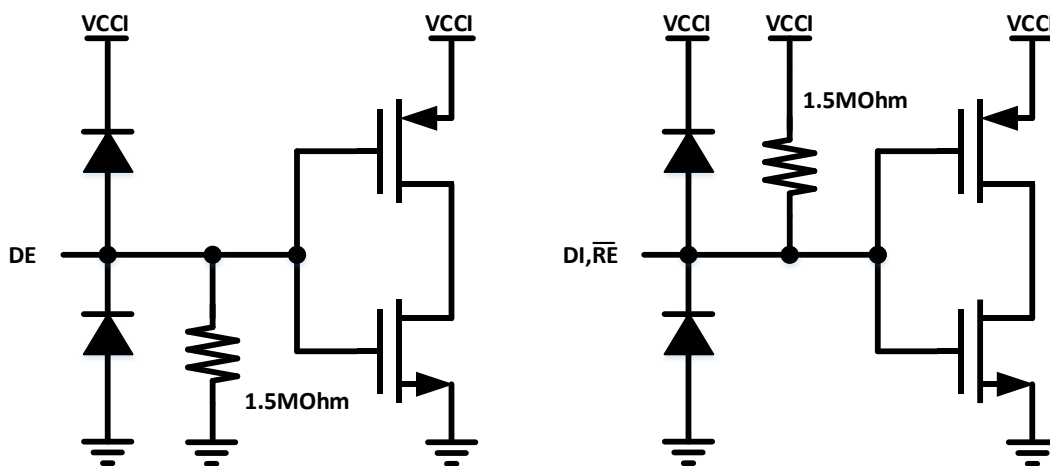

Figure 8-1. Input equivalent circuit
The CA-IS309x devices include three logic inputs on the logic side: receiver enable, driver enable and driver digital input. The driver enable control DE pin has an internal weak pull-down to GNDA, while the digital input DI and receiver enable pins have an internal pull-up to V_{CC}/V_{CCL} , see Figure 8-1 the input equivalent circuit.
The transmitter converts a single-ended input signal (DI) from the local controller to differential outputs on the bus lines A and B. The truth table for the transmitter is provided in Table 8-2, the driver enable control DE pin has an internal weak pull-down to GNDA, see Figure 8-1 the input equivalent circuit; while the digital input DI pin has an internal pull-up to V_{CC} for CA-IS3092W/CA-IS3098W or V_{CCL} for CA-IS3092VW/CA-IS3098VW. The driver outputs and receiver inputs on the bus side are protected from $\pm 20kV$ electrostatic discharge (ESD) to GNDB, as specified by the Human Body Model (HBM). The driver outputs also feature short-circuit protection and thermal shutdown.